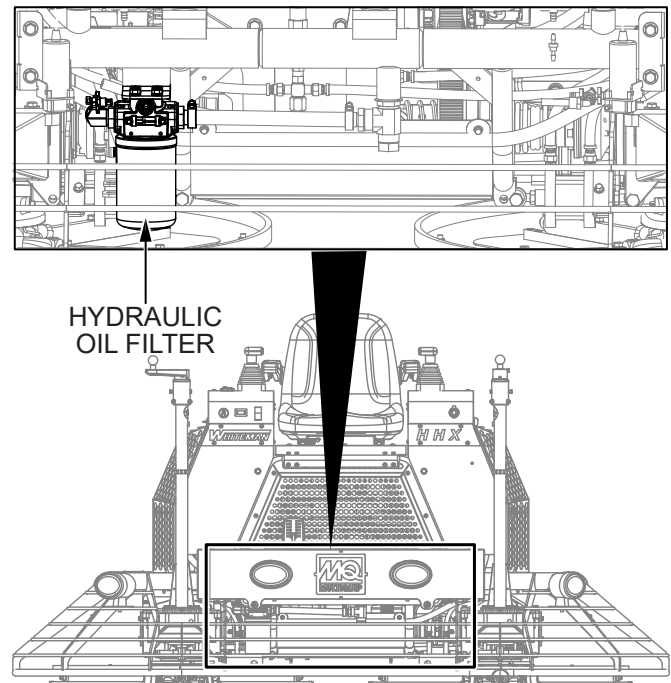

Figure 32. Hydraulic Oil Filter
1. Change the hydraulic oil and filters (Figure 32) after the first 100 hours of use, then after every 250 hours. Use 10-micron absolute synthetic media filters.